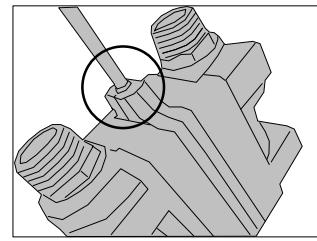

FIG. 3
- Verify that valve actuating cable is inside the valve receptacle. (FIG.3)